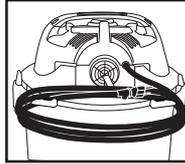

FIGURE 37
56. Before storing your vacuum cleaner the tank should be emptied and cleaned. The power cord can be wrapped around the cord wraps provided on the tank cover on rear of unit. **FIGURE 37.**